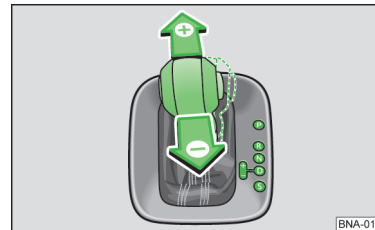

Fig. 47
- Tip the selector lever forward  or backward  in order to shift gears up or down » fig. 47.